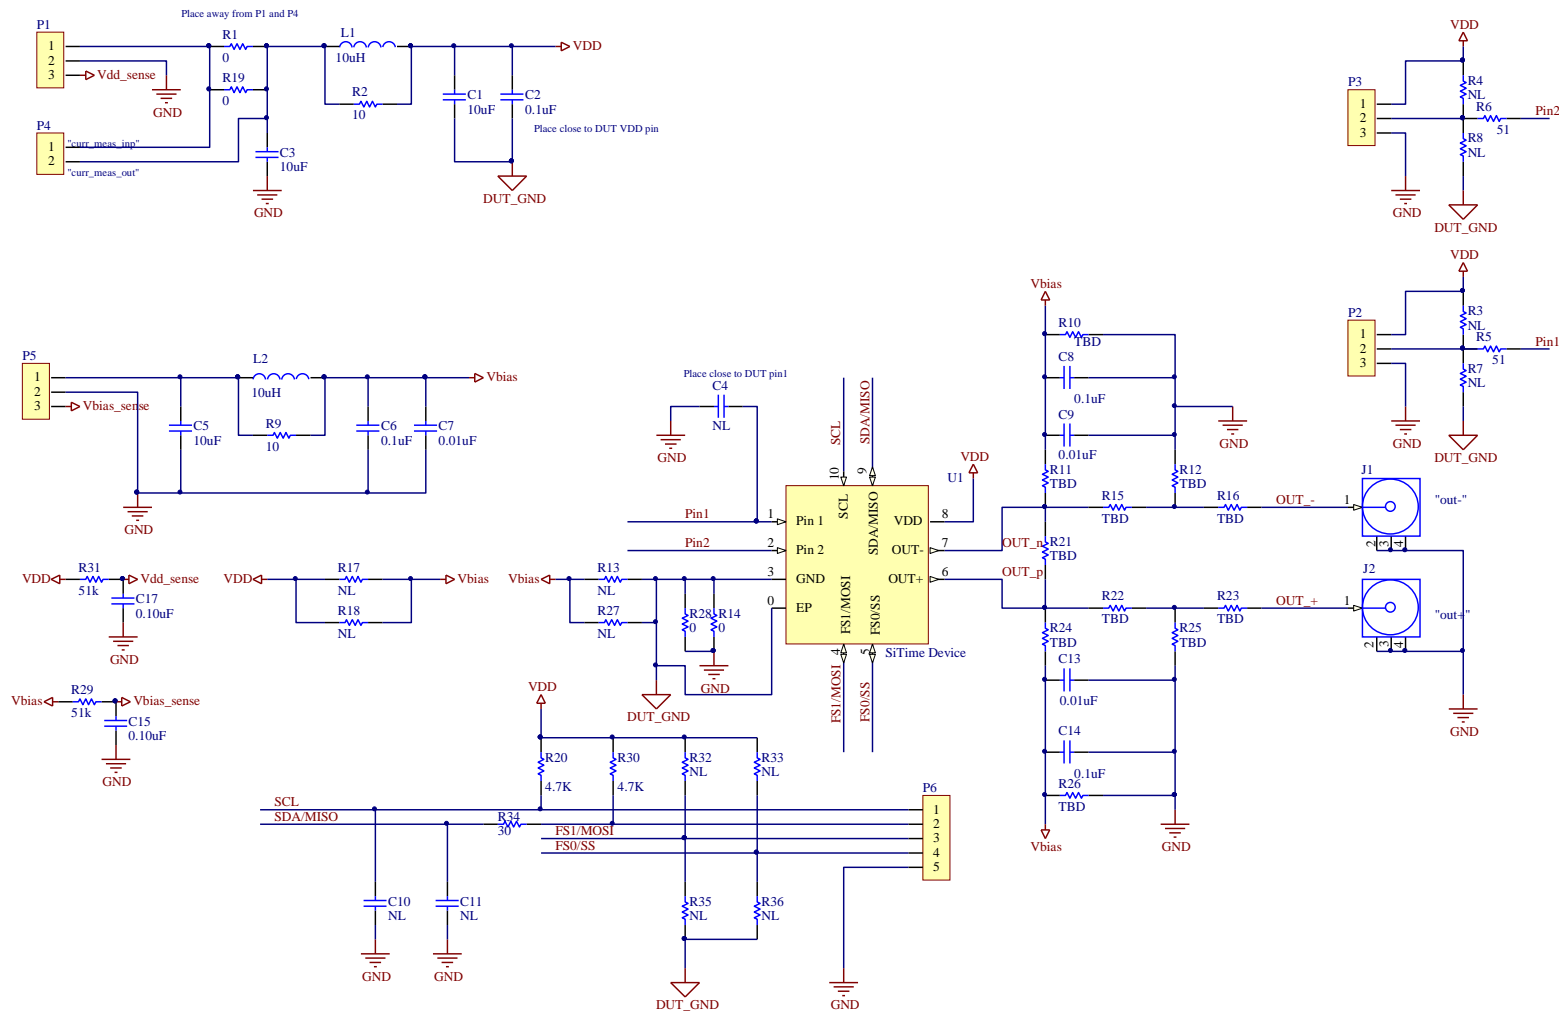

Figure A1: SiT6712EB rev. 2.01 schematic
- Figure A1 in Appendix A for the SiT6712EB schematics